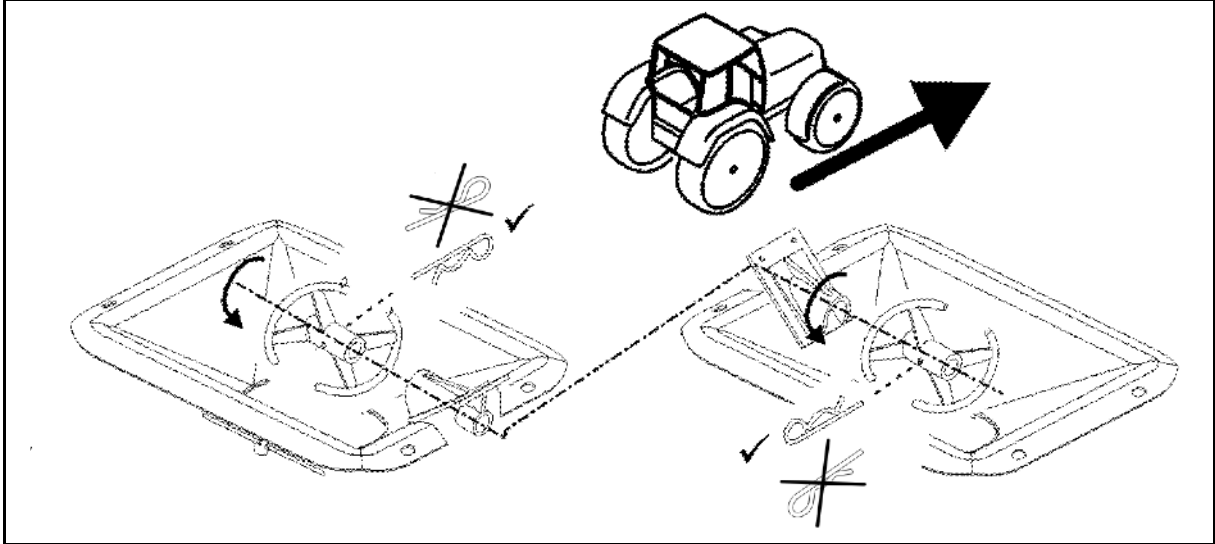

Fig. 49
- 6 screws of the weighing cell (Fig. 49/1)